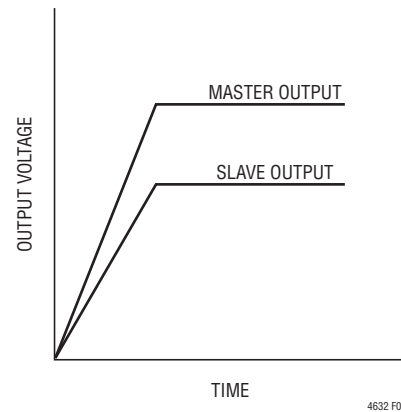
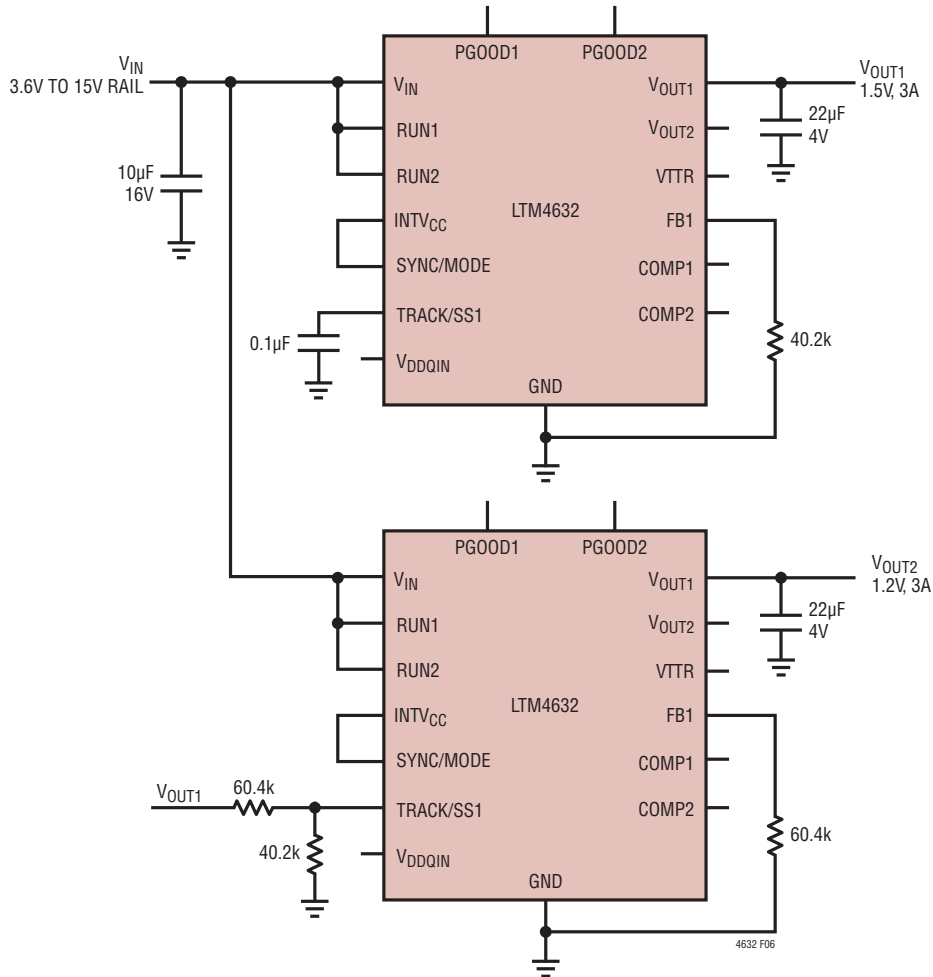

Figure 5. Output Ratiometric Tracking Waveform
Figure 6. Example Schematic of Ratiometric Output Voltage Tracking
Channel 1 output voltage tracking can also be programmed externally using the TRACK/SS pin. The output can be tracked up and down with another regulator. Figure 5 and Figure 6 show an example waveform and schematic of a Ratiometric tracking where the slave regulator's output slew rate is proportional to the master's.
The RFB(SL) is the feedback resistor and the RTR(TOP)/RTR(BOT) is the resistor divider on the TRACK/SS pin of the slave regulator, as shown in Figure 6.